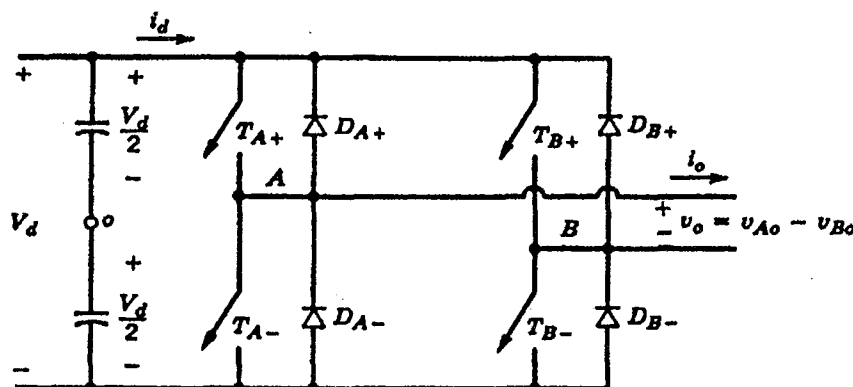

Figure 3 Single-phase full-bridge inverter.
4. A single-phase full-bridge inverter circuit shown in Figure 3 is operated with PWM bipolar switching scheme. The input voltage to the bridge is 230 V. The amplitude modulation ratio is 0.6. The switching frequency is 1450 Hz and the output voltage fundamental frequency is 50 Hz.